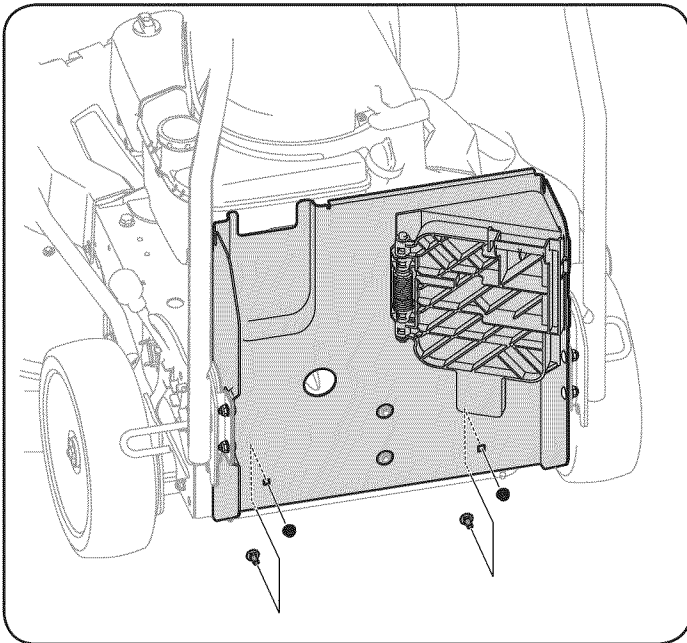

Figure 5
5. Carefully thread the two remaining carriage bolts through the two holes at the rear base of the mower frame and the rear support bracket. Secure them with the two remaining flange lock nuts. See Figure 5.